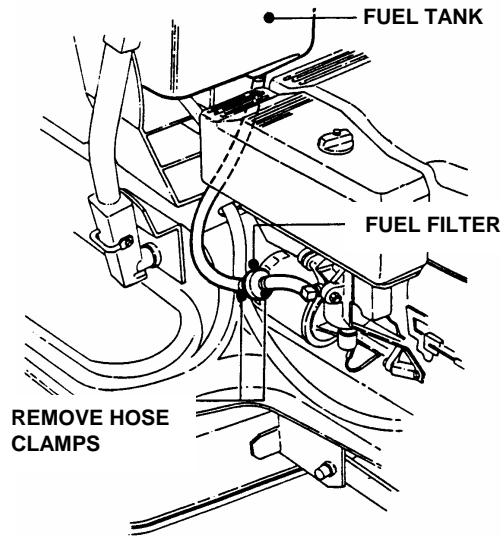

FIGURE 3.14
2. Locate fuel filter. Remove hose clamps and fuel hoses from both sides of fuel filter. See Figure 3.14.